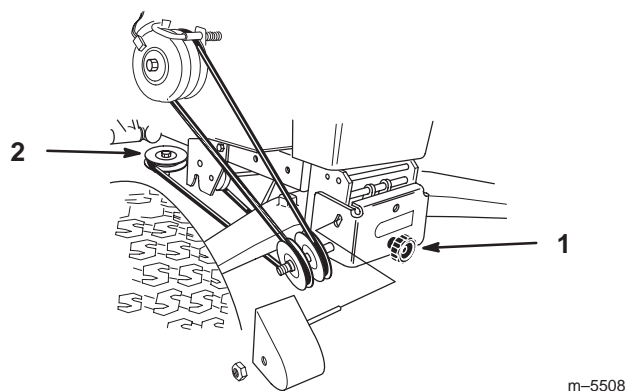

Figure 17
3. Turn knob on idler assembly clockwise to loosen belt. Remove belt from upper mower pulley (Fig. 17).